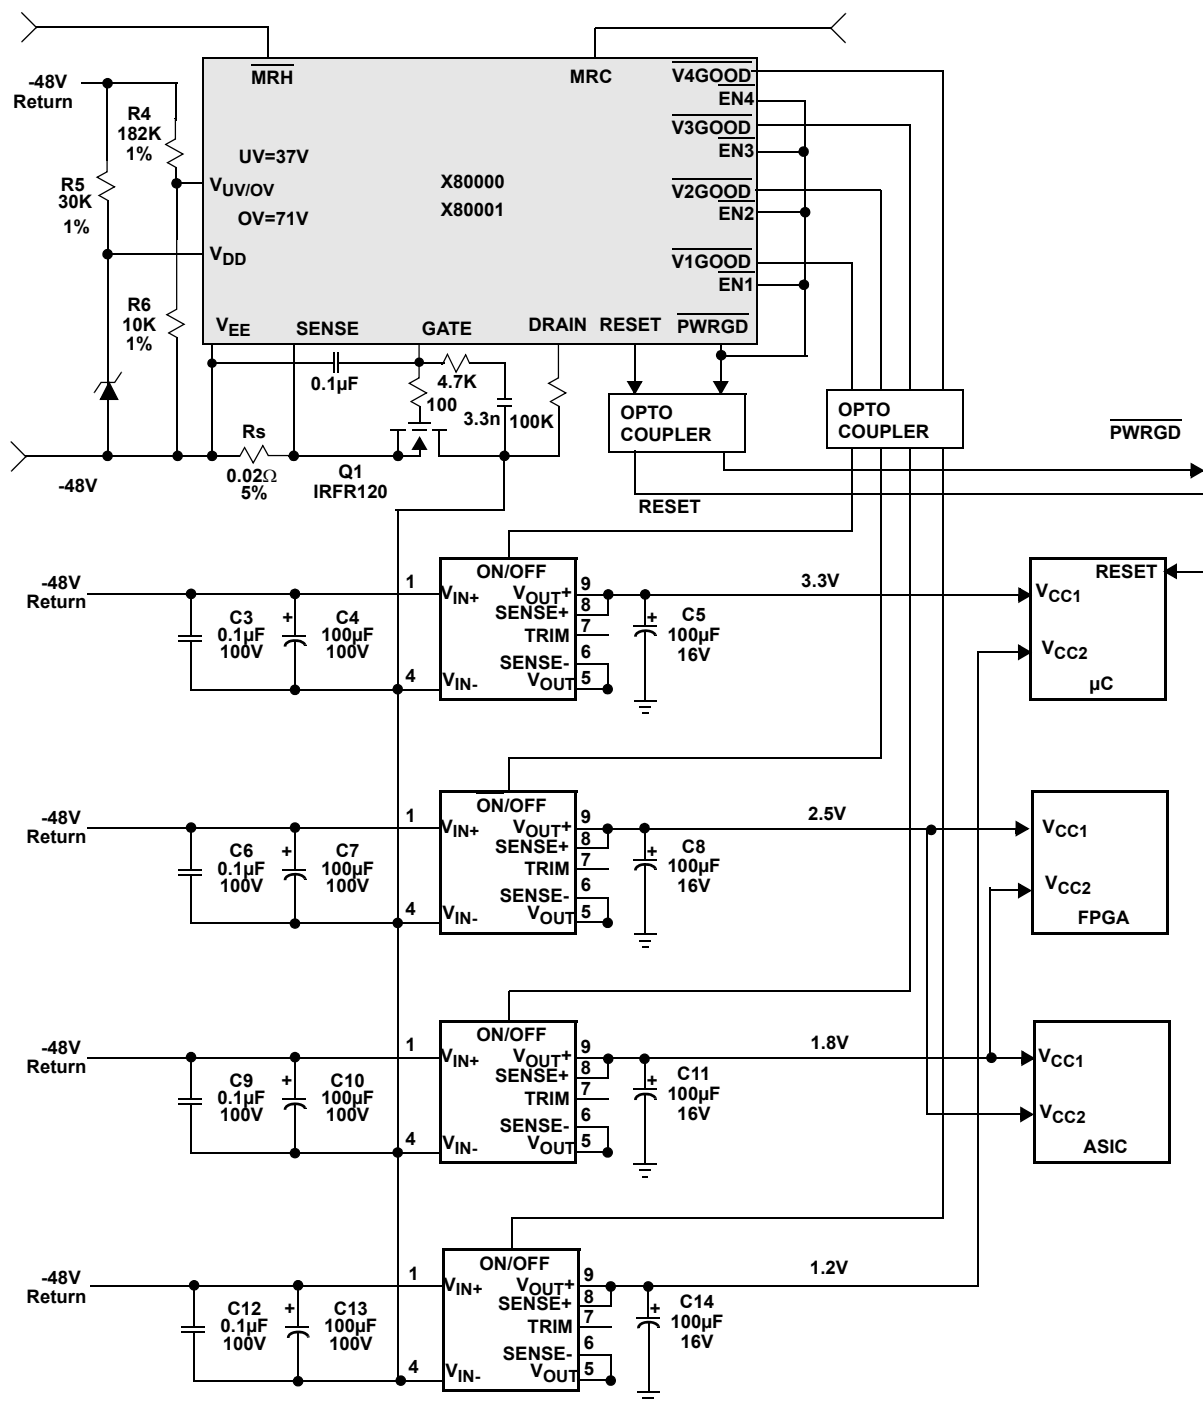
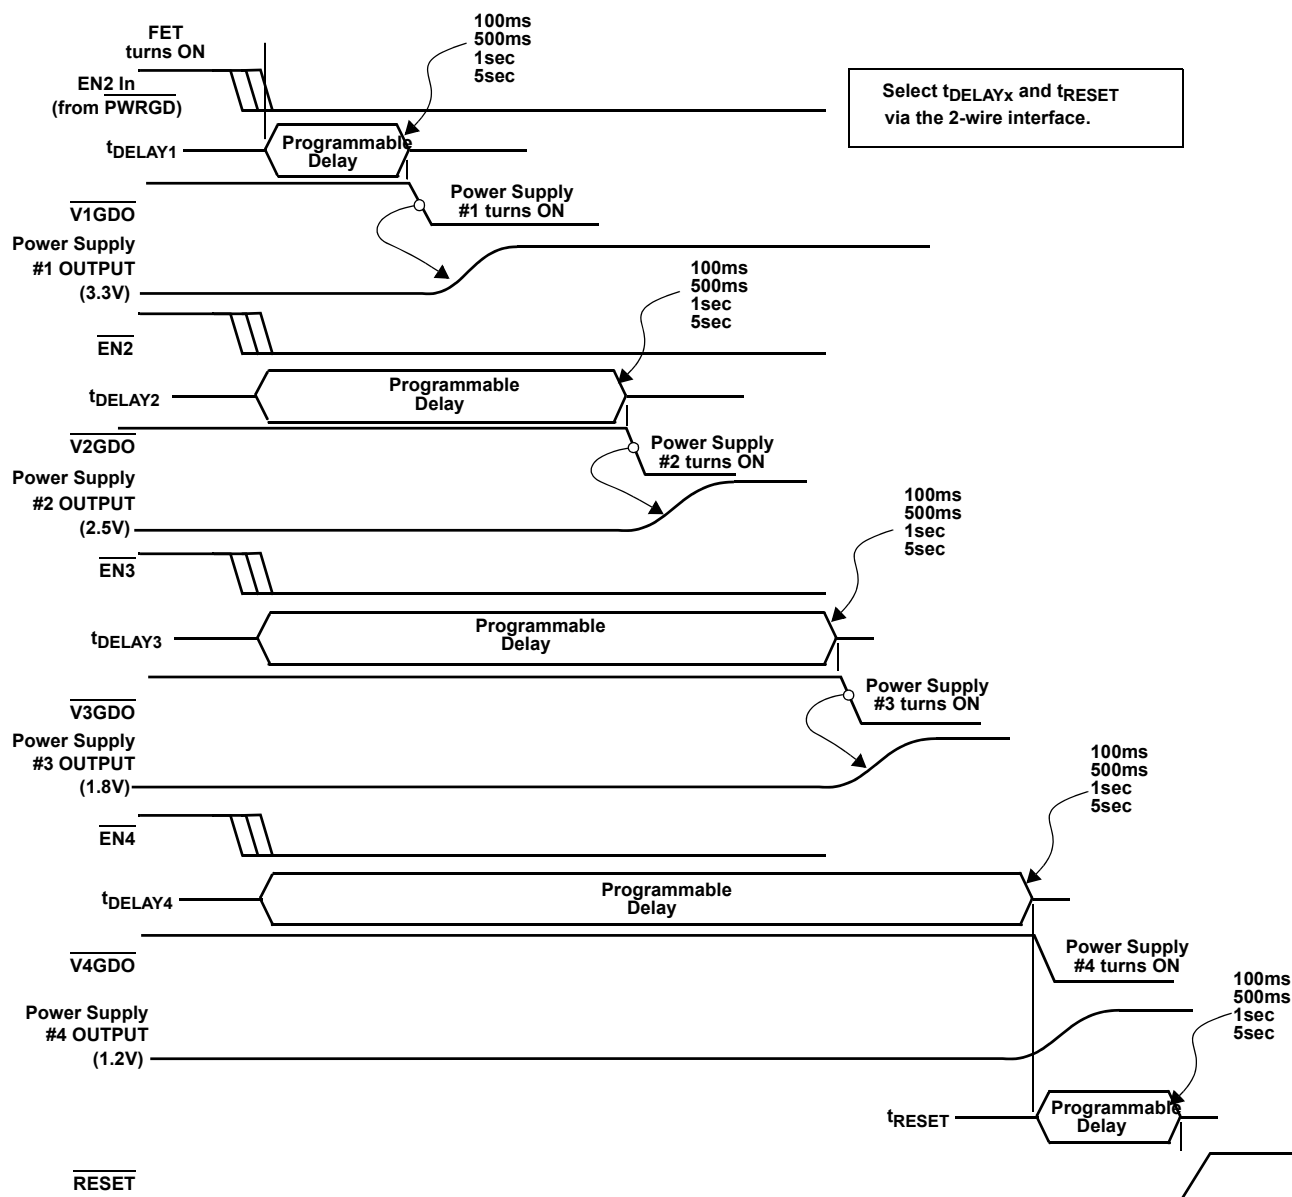

FIGURE 33. TYPICAL APPLICATION OF HOTSWAP AND DC-DC PARALLEL POWER SEQUENCING
FIGURE 34. PARALLEL SEQUENCING OF DC-DC SUPPLIES (TIMING)
1. Power Up of DC-DC Supplies In Parallel Sequencing Using Programmable Delays on Power Good (See Figure 33 and Figure 34).